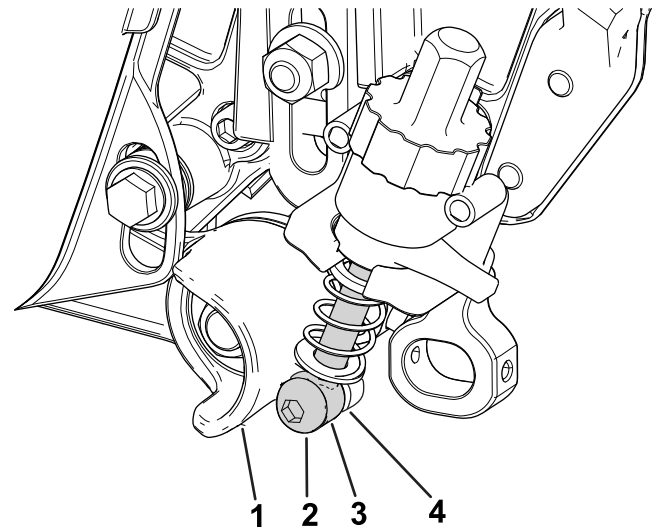

Figure 13
4. Align the adjuster-arm assembly rod near the adjuster collar on the idler assembly and secure it to the collar with an shoulder bolt and hardened washer (Figure 13); torque the shoulder bolt to 16 to 22 N·m (12 to 16 ft-lb).